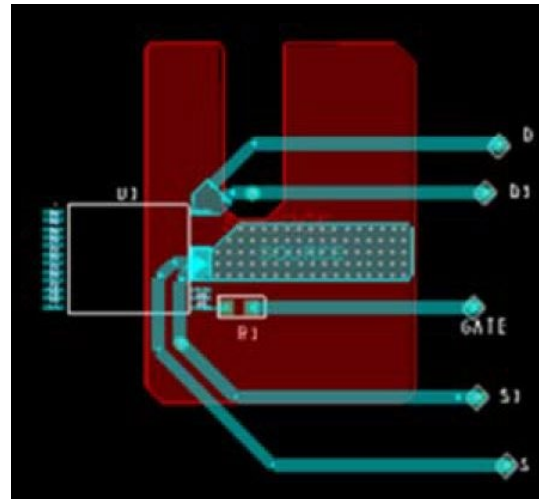

Figure 40. Thermal Resistance Test Conditions for PowiGaN Devices (INN3378C, INN3379C and INN3370C.)
Testing performed on custom thermal test PCB as shown in Figure 40. The test board consists of 2 layers of 2 oz. Cu with the InSOP package mounted to the top surface and connected to a bottom layer Cu heat sinking area of 550 mm².
- Please see Figure 40.